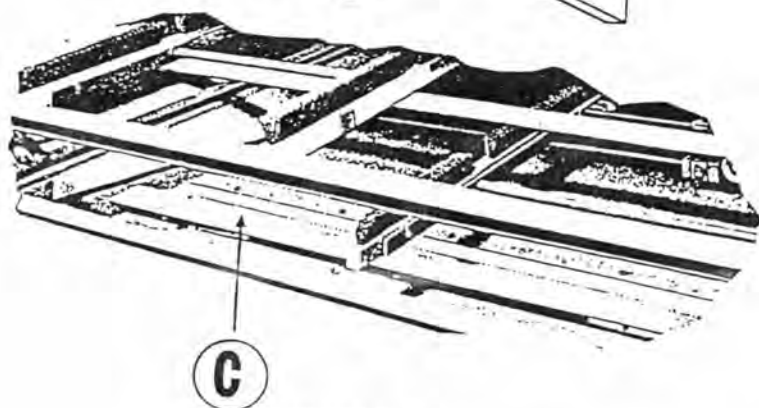

FIGURE 3.
- B. Install bridge plate (Fig. 4) marked (C) in (Fig. 3) across spout opening on pan of top shoe.